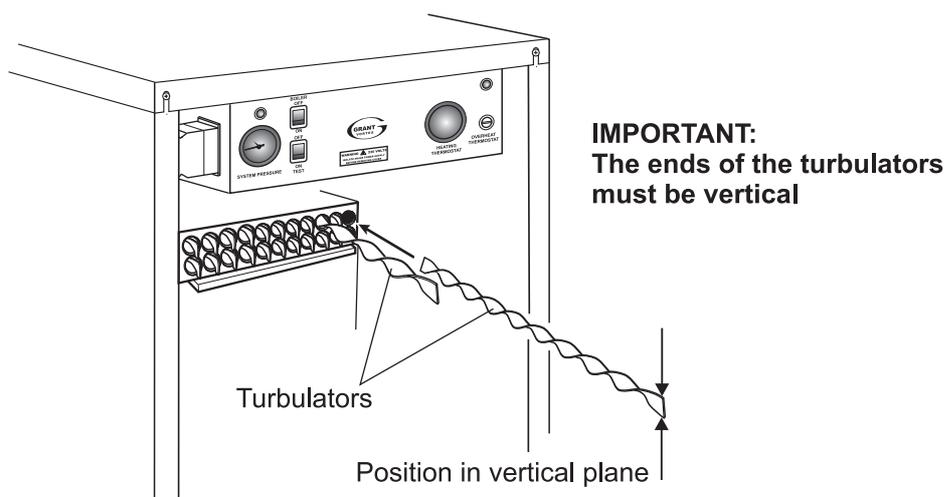

Fig. 28 Outdoor Vortex Combi turbulators
Check that the Vortex Combi turbulators are in position and that the ends are vertical, see Fig. 28.
- 7 **Vortex Combi** - Pull out the spiral turbulators from the heat exchanger tubes. See Fig. 28. Clean the turbulators using a stiff brush. Test the heat exchanger condensate drain by pouring water into one of the lower tubes and observe whether the water discharges from the 22 mm condensate outlet. Replace the turbulators.